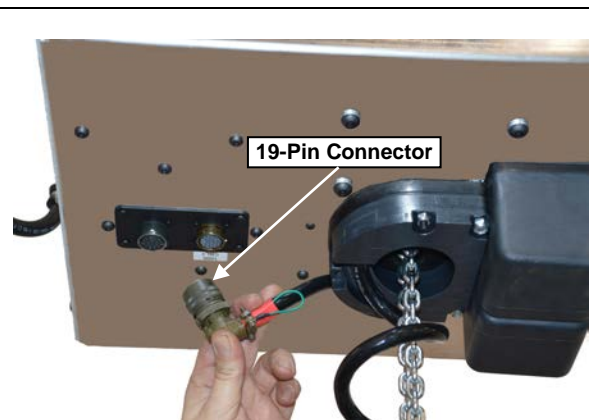

Figure 2-7
- 4) Connect the 19-pin connector to the bottom of the Servo Hoist. (Refer to Figure 2-7)